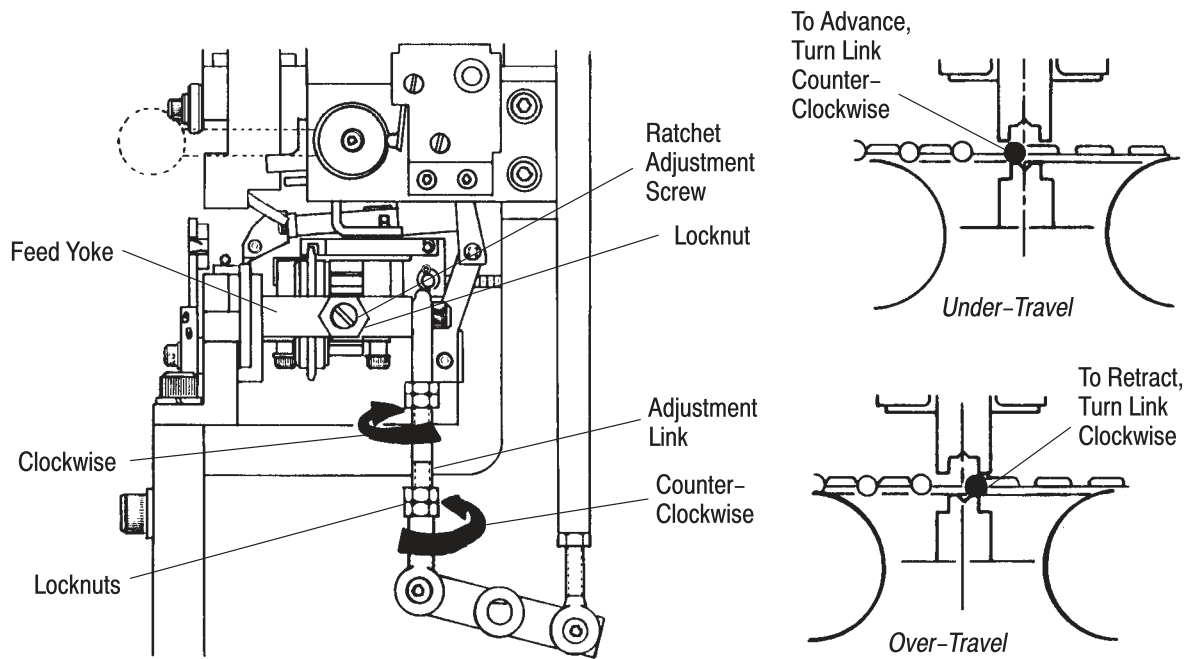

Figure 20
7.5. Tape Belt Feed Adjustments (Figure 20)